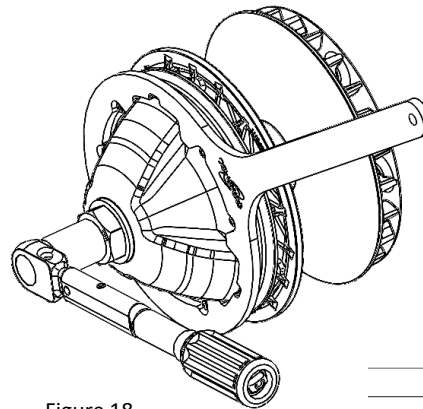

Figure 18
- Use a torque wrench and a 36 mm socket to tighten the pulley nut ⑮ (figure 18) (for replacement pulley see the tightening torque chart by pulley number on the CVTech website – for OEM pulleys, see your owner's manual).